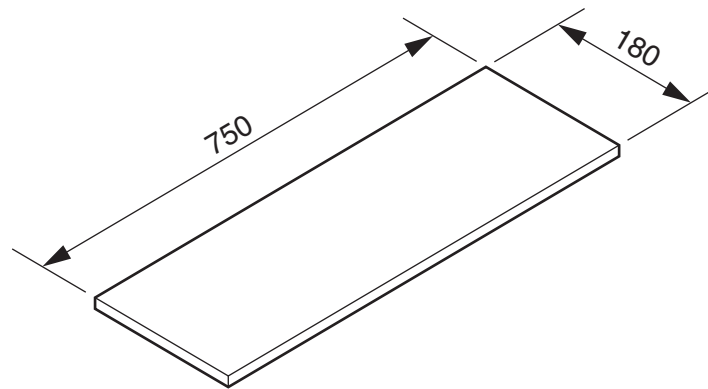

Fig. 6
- (b) Fig. 6 shows a shelf made from 15 mm thick manufactured board. The shelf will be supported by two of the moulded plastic brackets **B**.